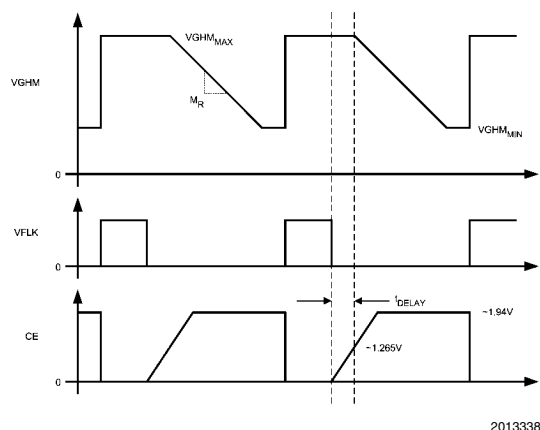
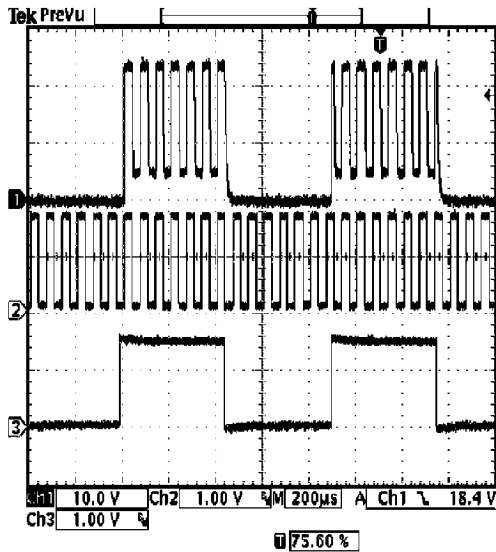

FIGURE 2.
FIGURE 3.
The Gate Pulse Modulation (GPM) block is designed to provide a modulated voltage to the gate driver circuitry of a TFT LCD display. Operation is best understood by referring to the GPM block diagram in the *Block Diagrams* section, the drawing in *Figure 2* and the transient waveforms in *Figure 3* and *Figure 4*.
When VDPM is high, typical waveforms for the GPM block can be seen in *Figure 2*. The pin VGH is typically driven by a 2x or 3x charge pump. In most cases, the 2x or 3x charge pump is a discrete solution driven from the SW pin and the output of the boost switching regulator. When VFLK is high, the PMOS switch P2 is turned on and the PMOS switch P3 is turned off. With P2 on, the VGHM pin is pulled to the same voltage applied to the VGH pin. This provides a high gate drive voltage, $VGHM_{MAX}$, and can source current to the gate drive circuitry. When VFLK is high, NMOS switch N3 is on which discharges the capacitor CE.
When the voltage on CE reaches about $1.265V$ and the VFLK signal is low, the PMOS switch P2 will turn off and the PMOS switch P3 will turn on connecting resistor R3 to the VGHM pin through P3. This will discharge the voltage at VGHM at some rate determined by R3 creating a slope, M_R , as shown in *Figure 2*. The VGHM pin is no longer a current source, it is now sinking current from the gate drive circuitry.
Figure 3 and Figure 4 give typical transient waveforms for the GPM block. Waveform (1) is the VGHM pin, (2) is the VFLK and (3) is the VDPM. The output of the boost switching regulator is operating at 8.5V and there is a 3x discrete charge pump (~23.5V) supplying the VGH pin. In Figure 3 and Figure 4, the VGHM pin is driving a purely capacitive load, 4.7nF. The value of resistor R1 is 15k Ω , R2 is 1.1k Ω and R3 is 750 Ω . In both transient plots, there is no C_E delay capacitor.